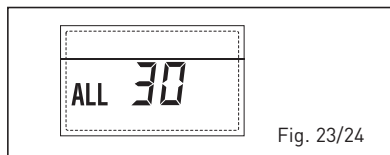

Fig. 23/24
– **CASCADE DELIVERY SENSOR ANOMALY “ALL 31” (fig. 23/25)**